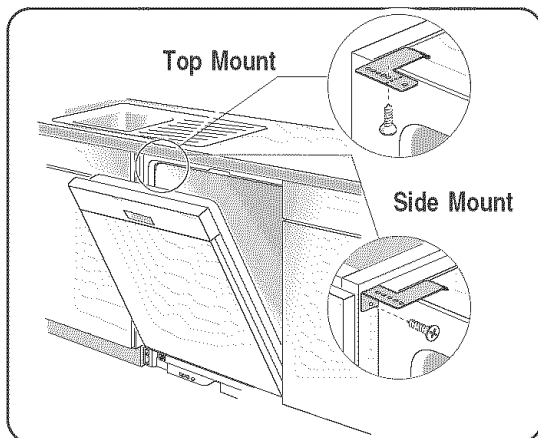

Figure 22
- 1 Drive the mounting screws through the holes in the mounting brackets as shown in **Figure 22** for Top or Side Mount.